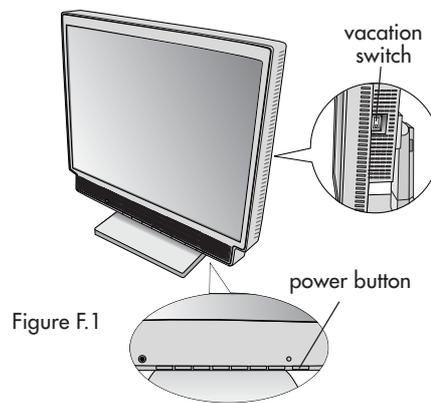

Figure F.1
7. The Vacation Switch on the right side of the monitor must be turned on (**Figure F.1**). Turn on the monitor with the Power Button and the computer.